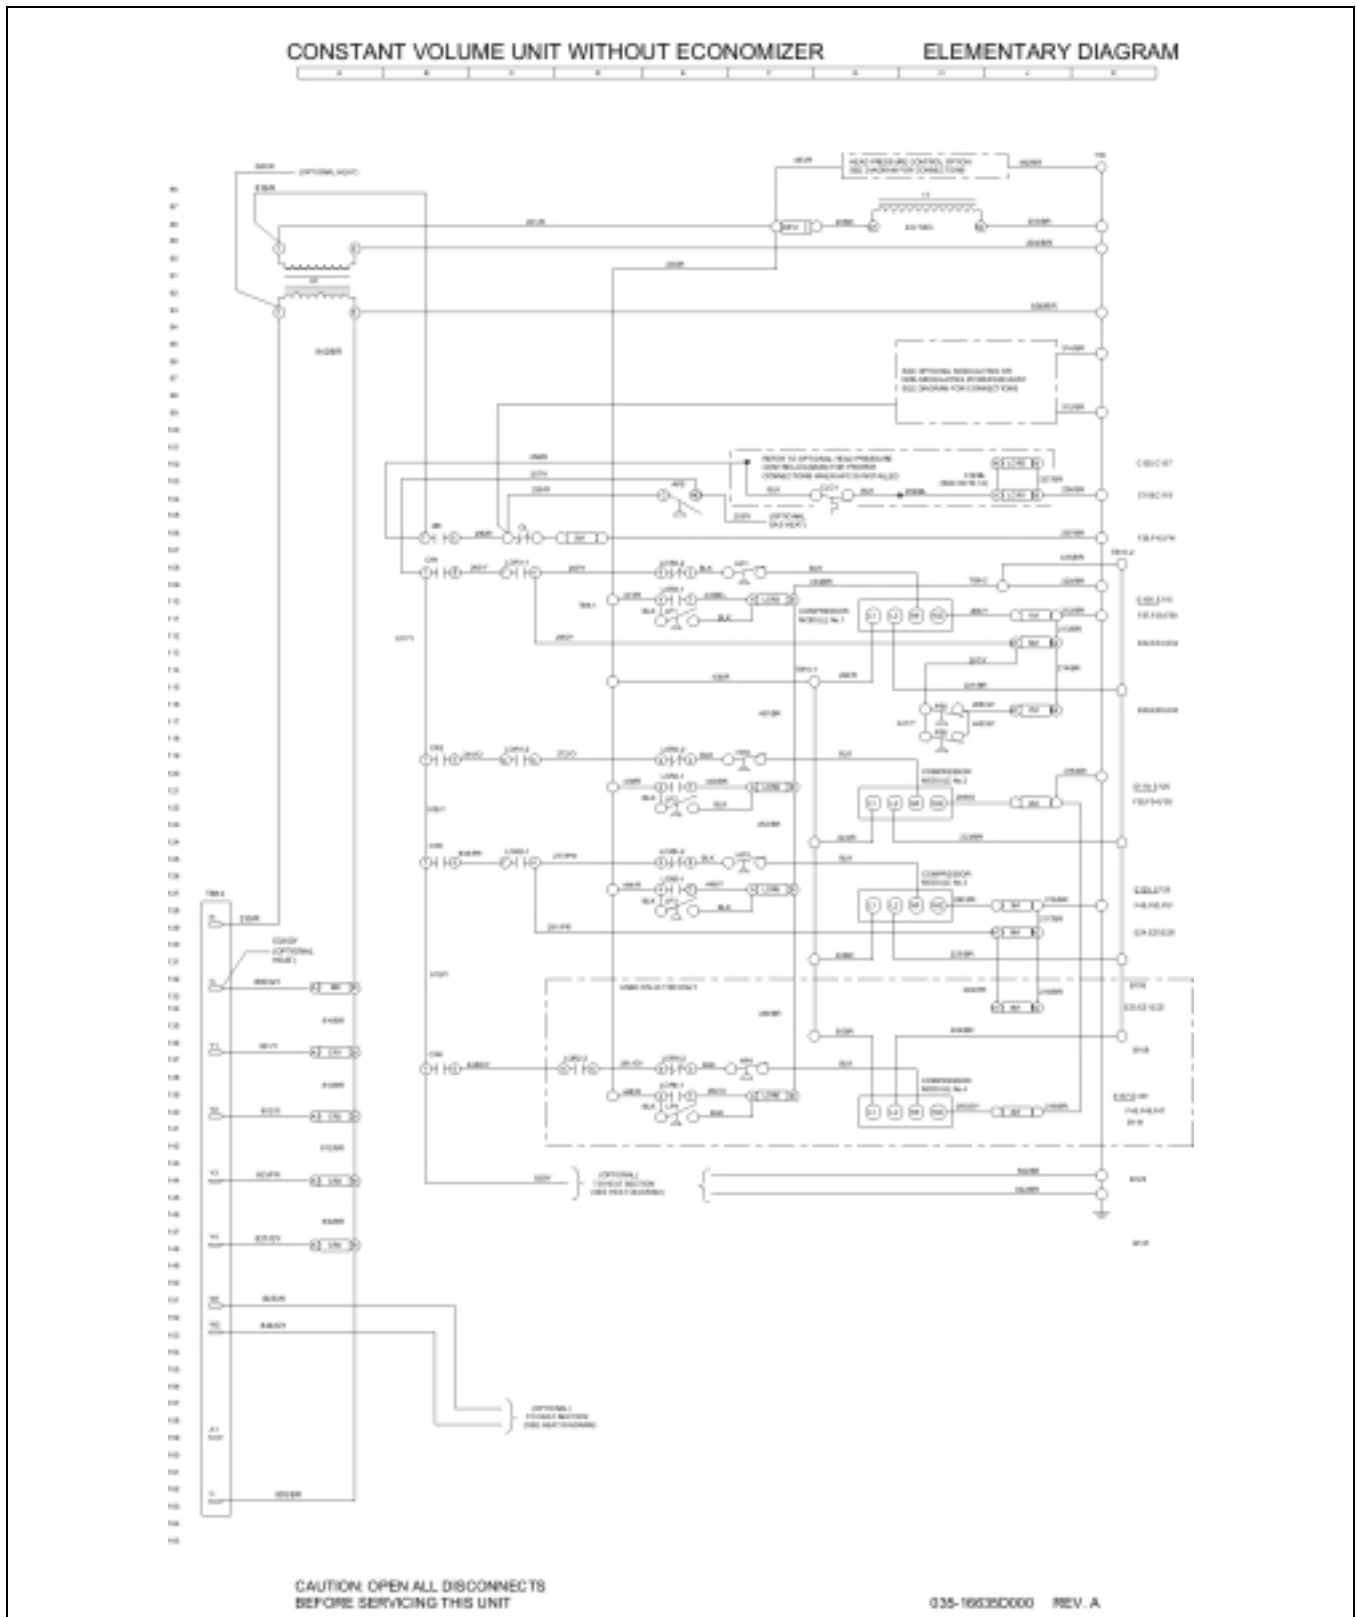

FIGURE 5 : CONSTANT VOLUME UNIT WITHOUT A ECONOMIZER WIRING DIAGRAM
- NOTE:** For the following steps (13-34) see Figures 5, and 6 respectively.